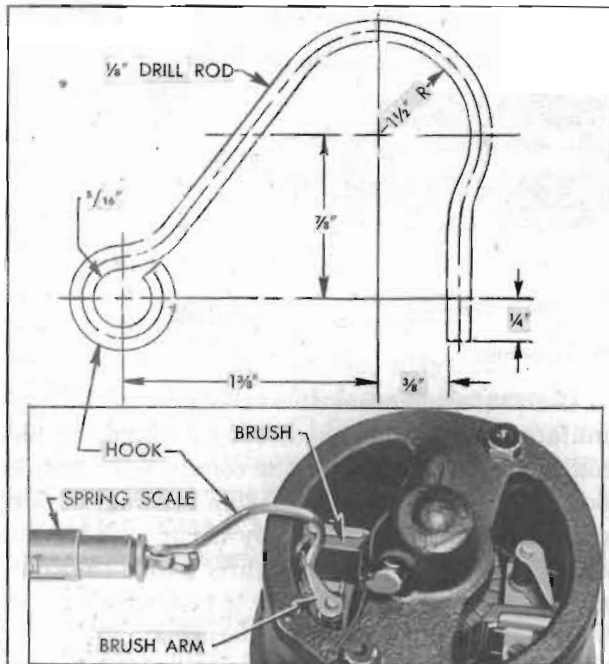

Figure 10-18—Checking Brush Spring Tension
3. After the commutator end frame is installed, check the tension of both brush springs using a spring scale equipped with a hook shaped as shown in figure 10-18. The hook should be made locally of $\frac{1}{8}$ " drill rod to provide adequate stiffness. Apply a steady pull at right angle to brush arm and note the scale reading at instant that brush arm is lifted off the brush. The pull required should be between 24 and 32 ounces. If tension is not within these limits replace springs.